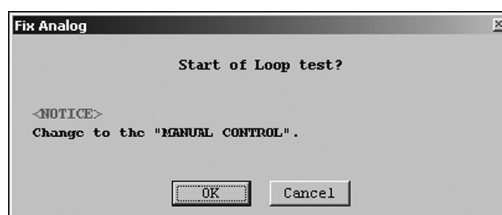

Fig.58
- ③ A message box as shown in Fig. 58 appears. If you want to use Analog Output 1 for the simulated output, click on "OK".